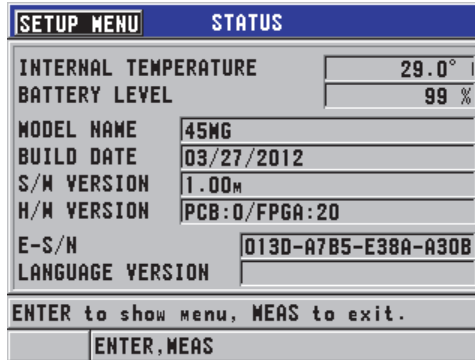

Figure 12-5 Example of the STATUS screen
- In the **SP MENU** (see Figure 4-2 on page 47), select **STATUS** (see Figure 12-5 on page 205).